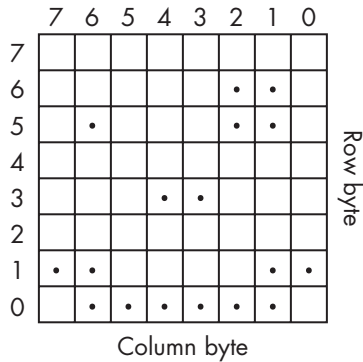

Figure 6-23: Layout for our POV display example
In this project we'll display the image on the matrix shown in Figure 6-23.
Notice how the 1s in the array resemble the lit LEDs in the layout in Figure 6-23. Our use of binary numbers makes developing an image very easy. By experimenting with `MSBFIRST` and `LSBFIRST` in the `shiftOut()` functions, you can flip each row around, as shown next. We use a `for` loop at ❶ to display each row in turn: